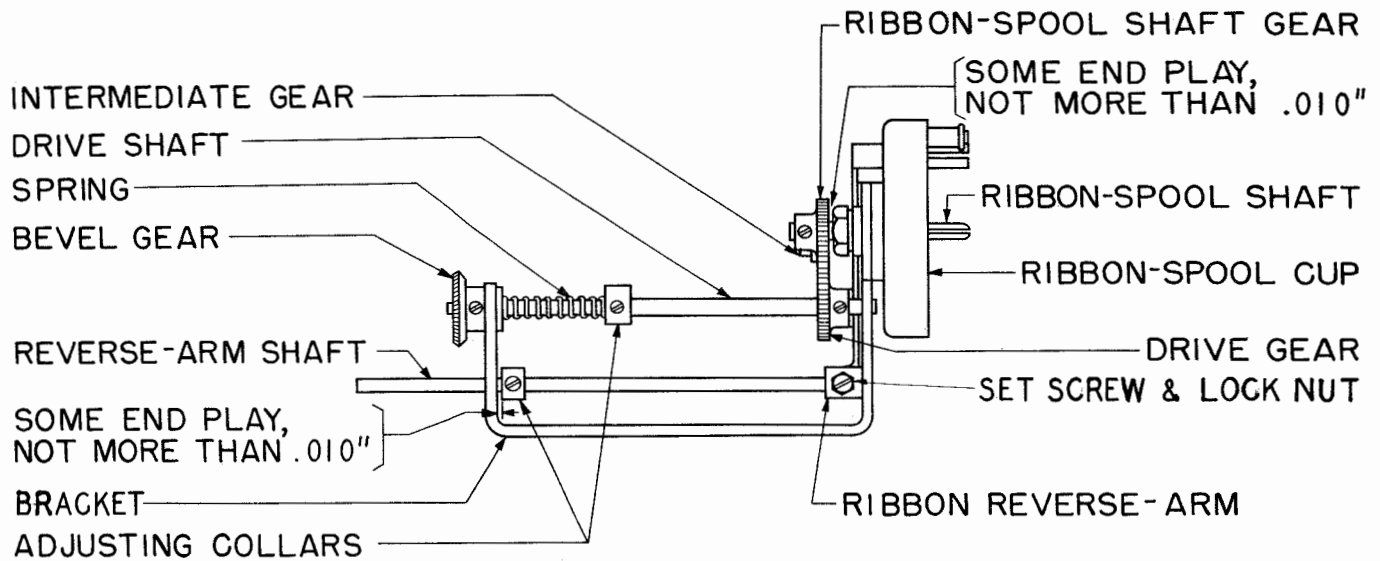
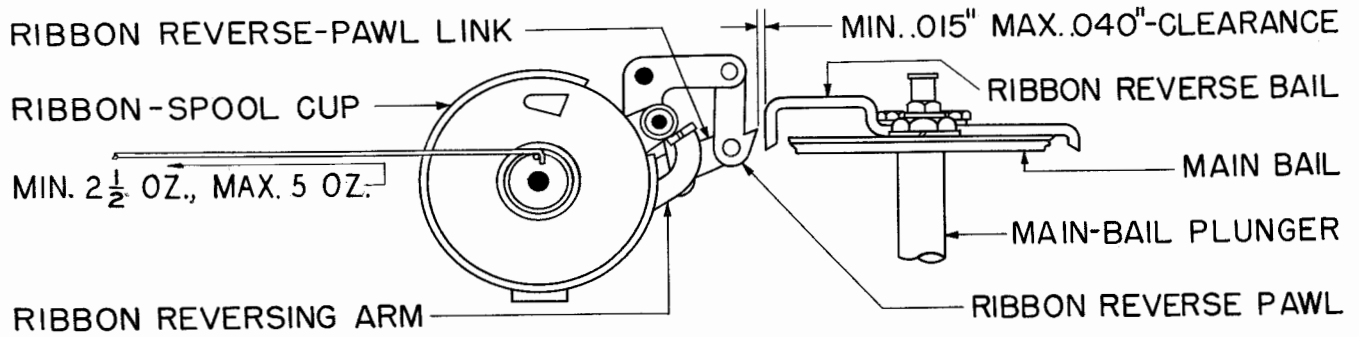
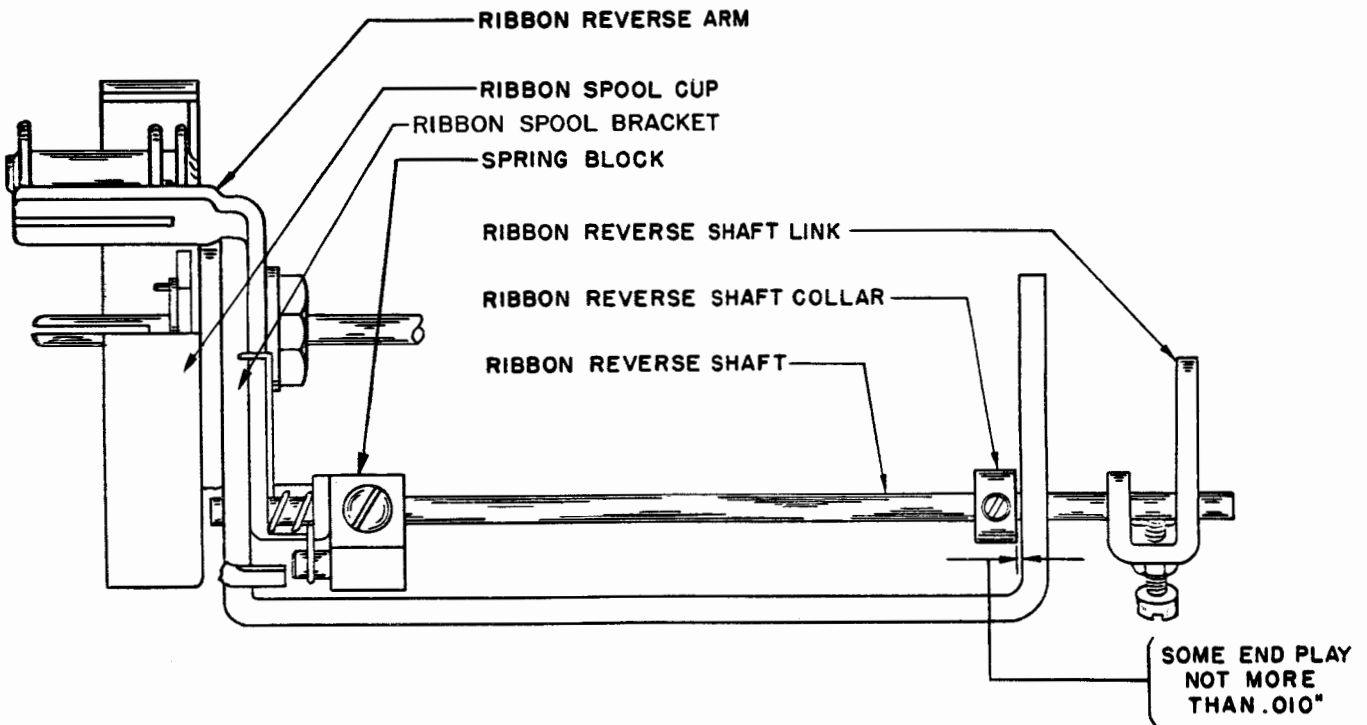

Figure 14
Figure 16
Figure 17
2.18 Ribbon-spool Brackets: Both left and right ribbon-spool cups shall be in line, and the right and left ribbon-drive-shaft bevel-gears shall have a minimum amount of endplay without binding when they are in mesh with their respective ribbon-feed-shaft bevel-gears. See Figures 14 and 15.
2.19 Left and Right Ribbon-spool Shafts shall have some endplay, not more than shown in Figures 14 and 15.
2.20 Left Ribbon-spool Drive-shaft shall extend approximately the same distance through the bevel gear as it does through the front of the ribbon-spool bracket. See Figure 14.
2.21 Left Ribbon-spool Drive-shaft Drive-gear shall mesh fully with the intermediate gear. See Figure 14.
2.22 Left and Right Ribbon-spool-shaft Compression-springs: It shall require a pull as indicated in Figure 16 to just start the ribbon-spool shafts turning. See Figure 14 for location of parts and Figure 17 for method of checking.
(a) On units where the left ribbon-reverse arm is provided with a left ribbon-reverse arm locknut and setscrew instead of a ribbon-reverse-arm yield-spring, the left and right ribbon-reverse-arm shafts shall be set flush with the front of the bracket when the associated ribbon-reverse arm is held against the bracket. See Figures 14 and 15.
endplay, not more than that indicated in Figures 14 and 15.
(b) On units equipped with a ribbon-reverse-arm yield-spring, the left and right ribbon-reverse-arm shafts shall have some endplay, not more than that indicated in Figure 17.
2.25 Ribbon Spools shall be sufficiently tight on their shafts to insure that they will not slide off in service. See Figures 14 and 15.
reverse-arm yield-spring, there shall be a clearance as indicated in Figure 16 between both the right and left ribbon-reverse pawls and the ribbon-reverse bail when the ribbon-reverse arms are resting against the ribbon-spool cups (unoperated position) and the ribbon-reverse bail is opposite the ribbon-reverse pawls.